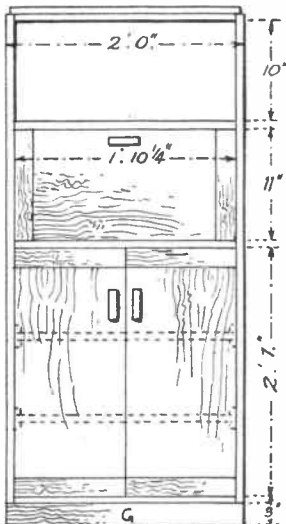
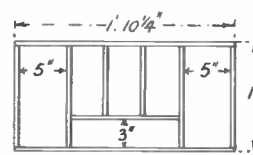

Fig. 1
Fig. 6
The base of the fitment consists of the rails (G) and two rails (F). They are rebated and screwed to the floor, as shown, with blocks glued behind them. The hinged front of the bureau is solid, and is partly framed by the two upright rails as seen in the detail Fig. 3. The two doors are made in similar manner as seen in the front view, Fig. 1. The doors and the bureau front are fitted with 2½ins. brass or chromium plated hinges, and a small bolt is put behind the left-
The main top of the bureau is fixed to the rails (C) by screws from beneath. In Fig. 6 the plan is shown for making the pigeon hole fitment. This is constructed from ¾in. wood and then slipped into place and screwed. A separate back is not required for this fitment, as it fits snugly against the main back of the bureau. A triangular fillet may be added to enable it to be screwed firmly into place. Two shelves can be fitted in the cupboard as suggested by the dotted lines in Fig. 1. Plain strip wood bearers screwed to the sides would act as supports